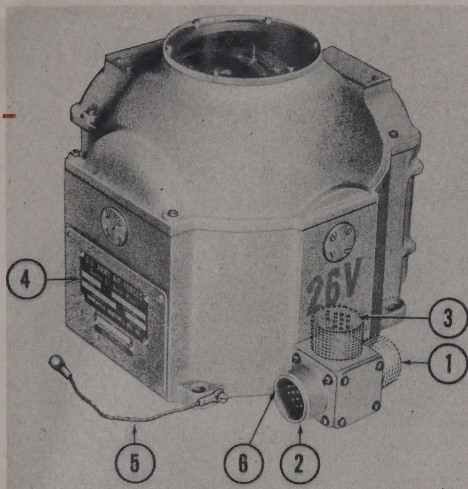

Figure 196 — AN Receptacle Position
The correct position for the outlet of the adapter is indicated by the order number on the identification plate. (See figure 196.)
(g) Secure AN receptacle (3) to adapter (1) with internal tooth lock washer and four 4-40x1/4-inch, fillister-head screws, making sure key (6, figure 196) is on side next to housing.